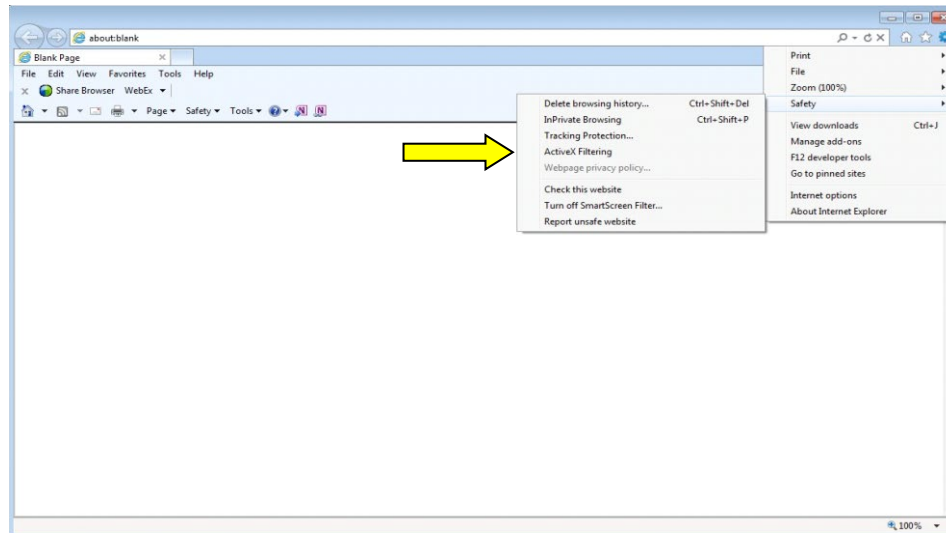

Figure 5-12: Clearing ActiveX Filtering in Internet Explorer 9
c. Clear the setting for ActiveX Filtering, as shown in Figure 5-12.